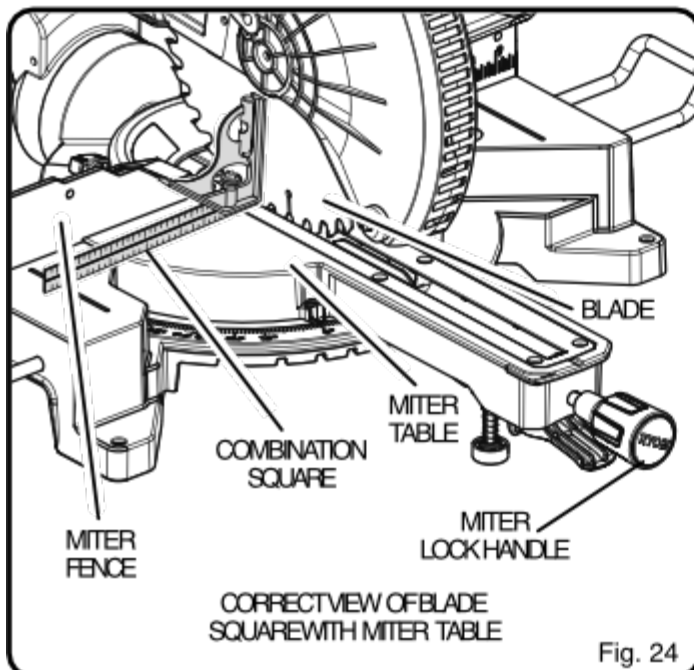

Fig. 24
See Figures 24 - 26.
- The edge of the square and the saw blade should be parallel as shown in figure 24.